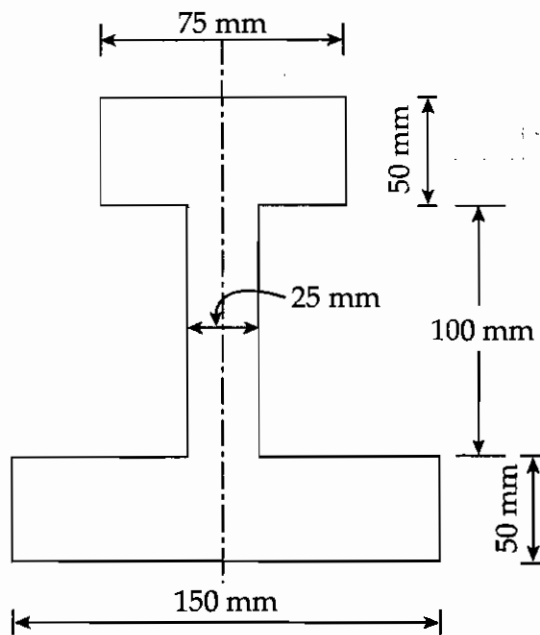

Figure 5
2. (a) The cross-section of cast iron beam is shown in Figure 5. The top flange is in compression and bottom flange is in tension. Permissible stress in tension is 30 N/mm^2 and its value in compression is 90 N/mm^2 . Determine how much concentrated load beam can carry at center of 5 m span. Given ends of beam are simply supported. 10